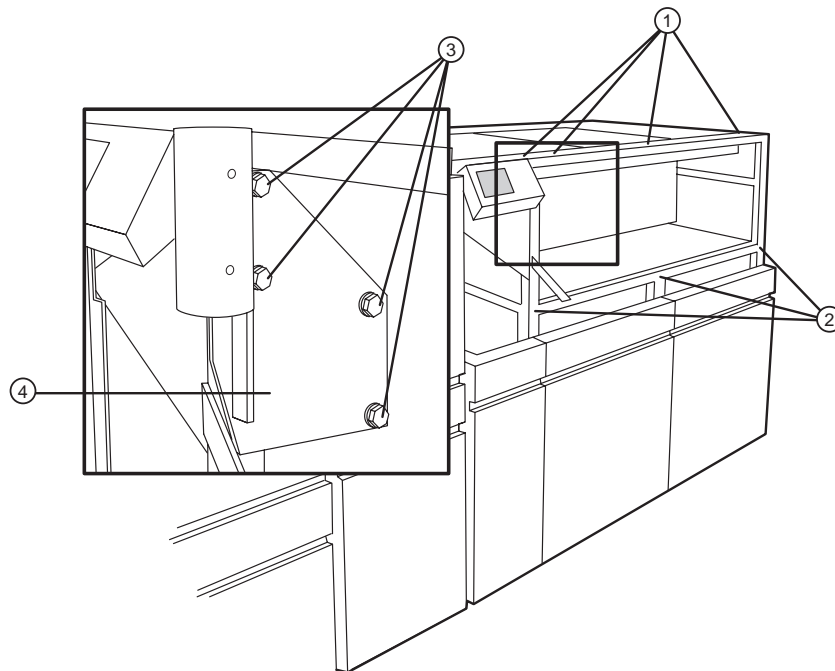
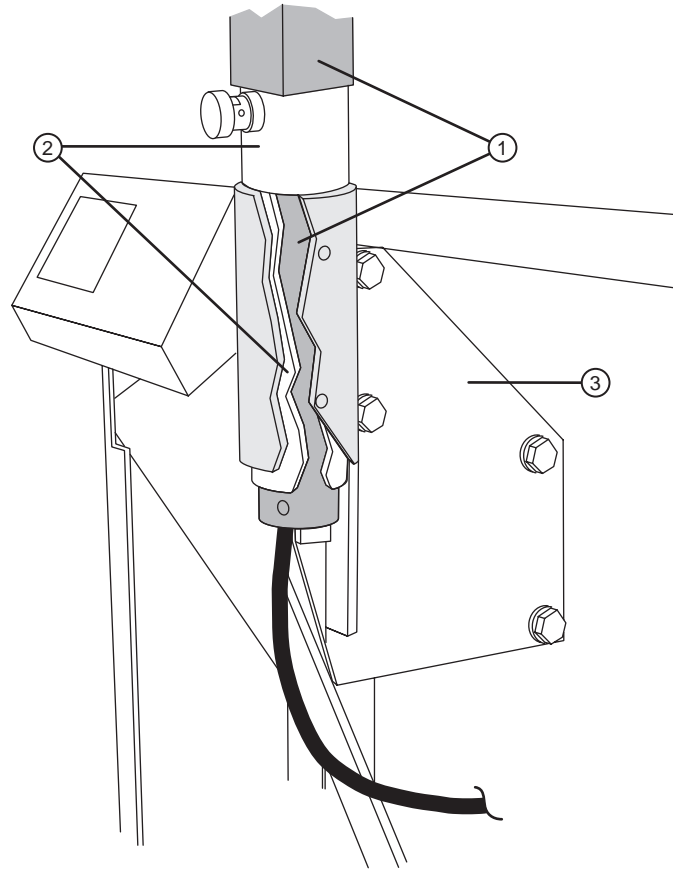

Figure 1-2 Crane mounting plate assembly.
Figure 1-3 Inserting the adapter into the mount.
2. Remove the four (4) hex screws (top) and three (3) hex screws (bottom) in the top side panel on the right side of the OLP. Refer to Figure 1-2.
3. If the Mounting bracket is not in place, use a 17mm socket wrench to attach it to the frame. Use the four bolts, washers, and lock washers supplied. Refer to Figure 1-2.
- ①—Four panel hex screws (top). ②—Three panel hex screws (bottom).
③—Four bolts with washers. ④—Mounting bracket.
4. Insert the adapter into the mount and secure with the two (2) set screws and locking nuts. Refer to Figure 1-3.
5. Replace the top side panel to the OLP and verify that the panel cut-out for the crane has an acceptable fit. Refer to Figure 1-2 and Figure 1-3.
- ①— Location 4 hex screws top of side panel.
- ②— Location 3 hex screws bottom of side panel.
3. Disconnect the power cable coming from the crane assembly to the plug inside the OLP. Figure 1-3.